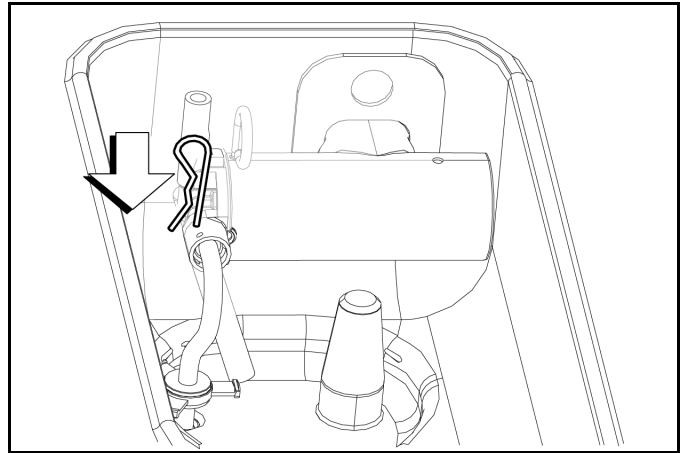

Figure 6-43
4. Install the pump end of the mix feed tube and **secure with the cotter pin.** (See Figure 6-43.)